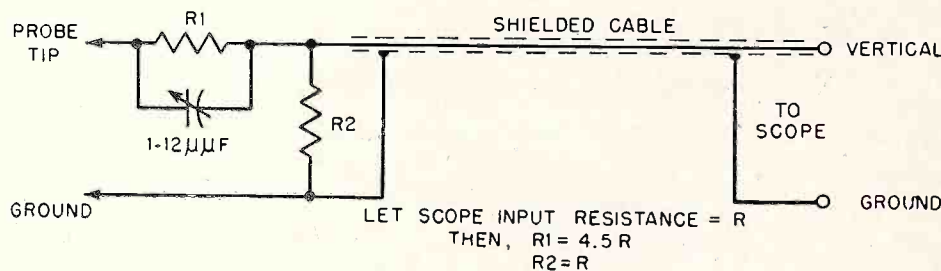

Fig. 4. Low-capacitance 10-to-1 attenuator probe.
**Low-capacitance Probe.** In Fig. 4 is shown a 10-to-1 low-capacitance high-impedance probe. The required values of resistors are indicated in the diagram. This probe raises the input impedance of the cable by a factor of ten and attenuates the a-c input signal by a factor of ten. The probe also attenuates any d-c component which may be present, and thereby reduces the d-c voltage stress across the series blocking capacitor in the input circuit of the scope.
Figure 4 shows a yoke with too low horizontal inductance. In this instance, the effect of stray capacitance and reduced coil currents